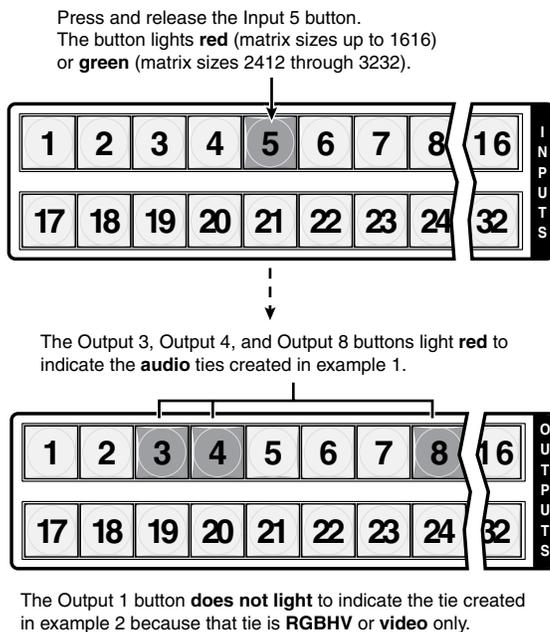

Figure 3-19 — Select an input
3. Press and release the input 5 button (figure 3-19).